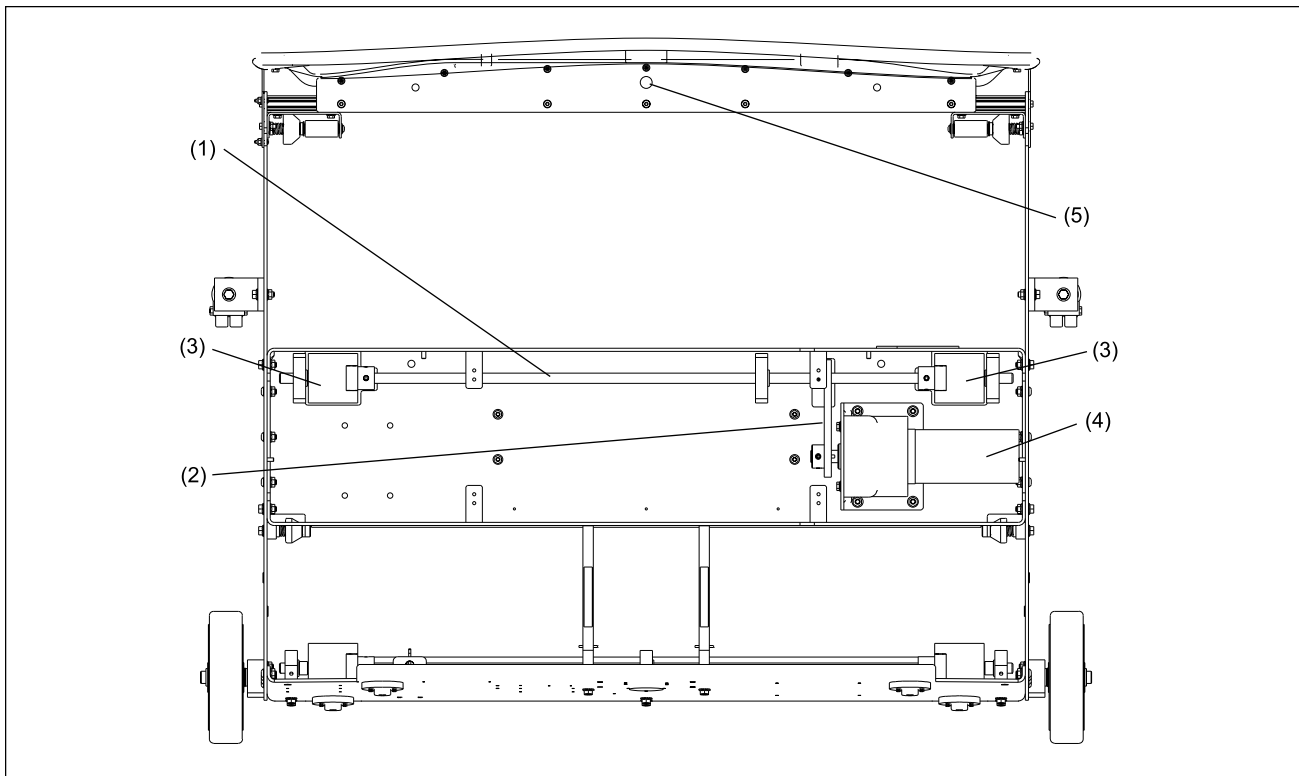

Figure 6-6. Traction Drive System
1. The machine travels up and down the lane by means of a traction drive motor connected through a chain to two drive wheels. Refer to Figure 6-6. .